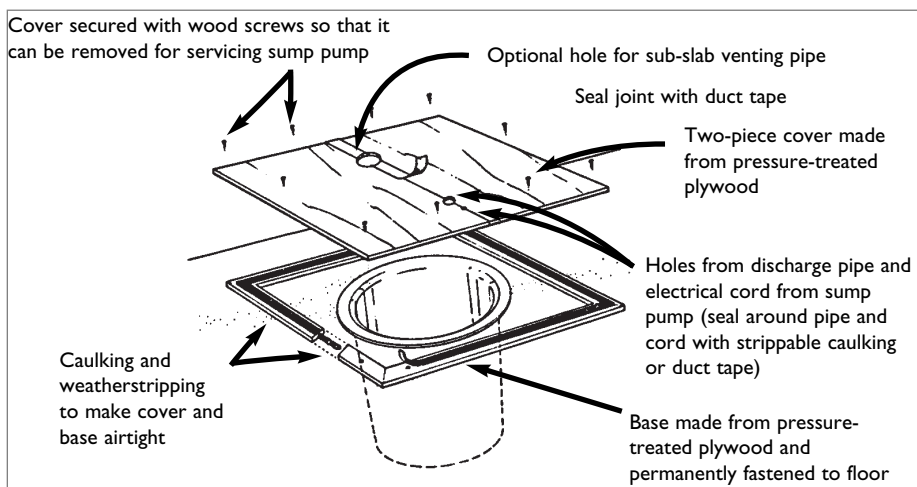

Figure 8: Sealing open sumps
- **Open sumps** – Sumps can be fitted with an airtight cover (*see figure 8*). If the sump also acts as a floor drain, add a special trap to the airtight cover and slightly recess the cover into the sump.
- Use a sealed lid on the sump. Your builder may either purchase a sealed unit or field fabricate a sealed lid (refer to figure 8, page 16). A sealed lid keeps out radon as well as molds, odours, insects and cold drafts. It also reduces the risk of injury to small children.